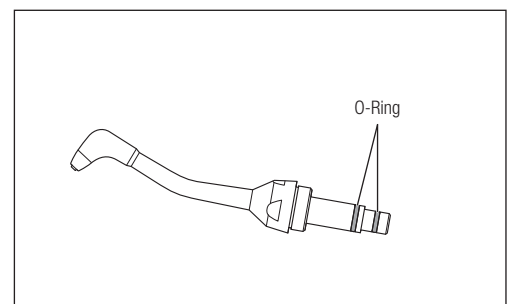

Fig. 45
- 2) Remove the O-rings from the root of the Nozzle using a needle, etc. (Fig. 45). If there is powder in the O-ring grooves, clean the groove before inserting the new O-ring.